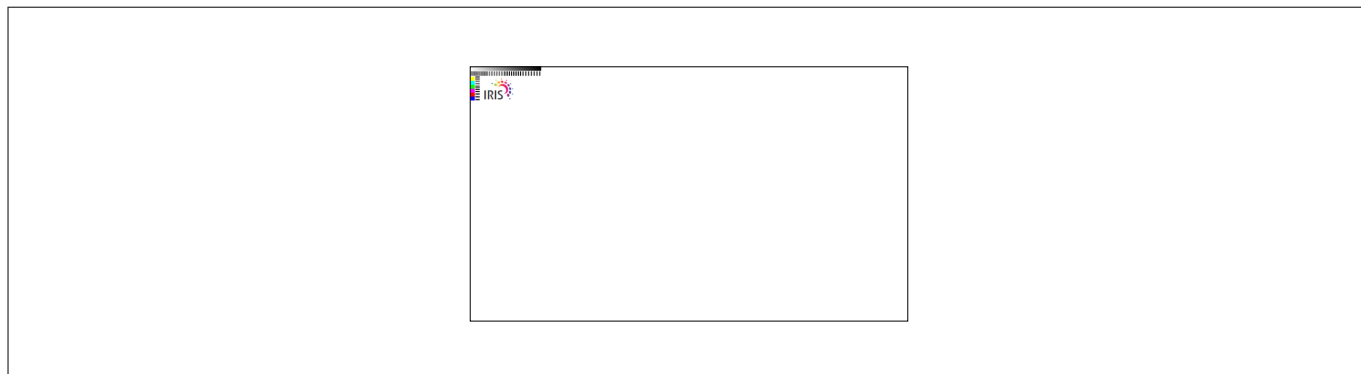

Figure 7 **IRIS test pattern coming on the screen**
5. Observe that the IRIS test pattern appears on your screen, as shown in Figure 7